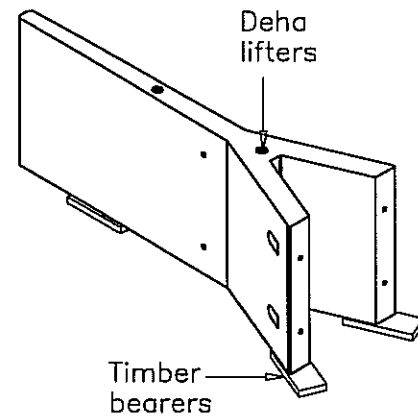

Fig. 1
1. The units are delivered horizontal and should be offloaded using the Deha lifters in the top face and stacked upon timber bearers as shown in Fig. 1